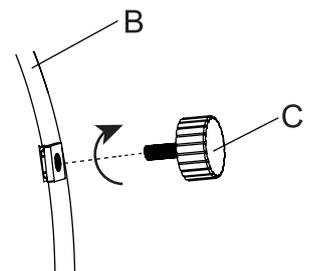

Figure 1
1. With the help of another person, carefully side place the fire pit (B) on a non-abrasive flat surface to prevent scratching, check the four corners at the bottom of fire pit, then line up the foot glider (C) with the screw hole and screw clockwise (see Figure 1).